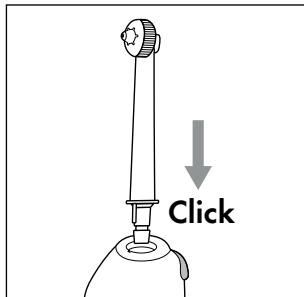

Fig. 2
- If used daily, replace the nozzle attachments ② after no more than six months.
- Use only original nozzle attachments ②. Information on ordering replacement nozzle attachments ② can be found in the section **Ordering replacement parts**.
- ◆ Make certain that the appliance is switched off before attaching or removing the nozzle attachment ②.
- ◆ Fit a nozzle attachment ② onto the hand unit ⑤. Press the nozzle attachment ② into the opening until the nozzle attachment ② audibly engages in the hand unit ⑤. Ensure that the guide tab on the lower end of the nozzle attachment ② is aligned with the corresponding groove in the opening on the hand unit ⑤ (see Fig. 2).